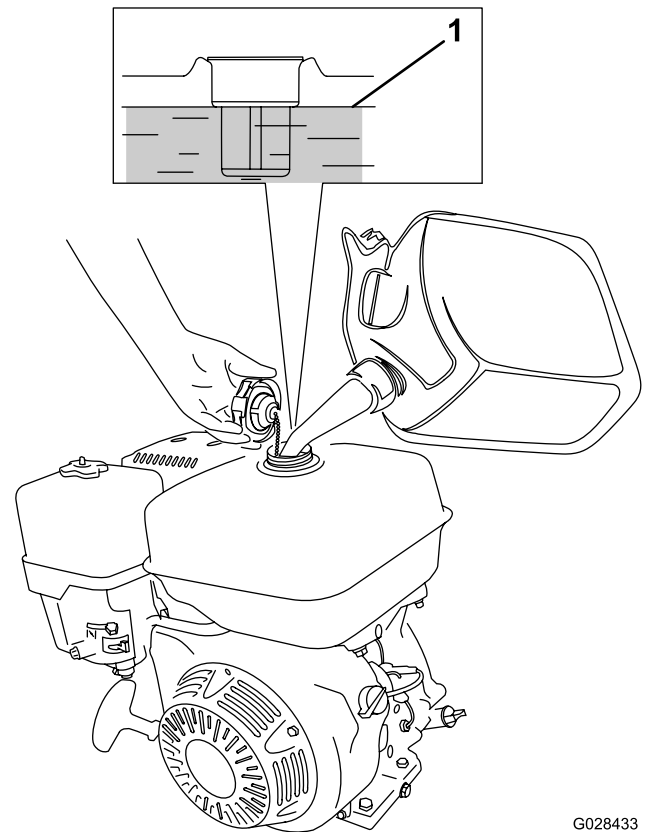

Figure 23
1. Clean around the fuel-tank cap and remove the cap from the tank (Figure 23). Using unleaded (87 pump octane minimum) gasoline, fill the fuel tank to approximately 25 mm (1 inch) below the top of the tank to allow for fuel expansion.